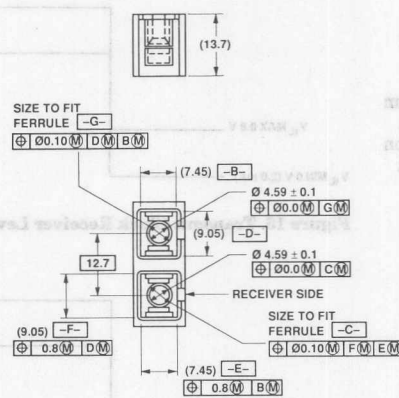

Figure 19. Duplex SC Receptacle.
16. The optical interface connector dimensionally conforms to the industry standard SC type connector documented in JIS-5973. A dual keyed SC receptacle serves to align the optical transmission fiber mechanically to the OLC. The transmit side of the receptacle is color coded black, the receiver side of the receptacle is color coded yellow. See Figure 19 for a drawing of the duplex SC receptacle that is part of the OLC.